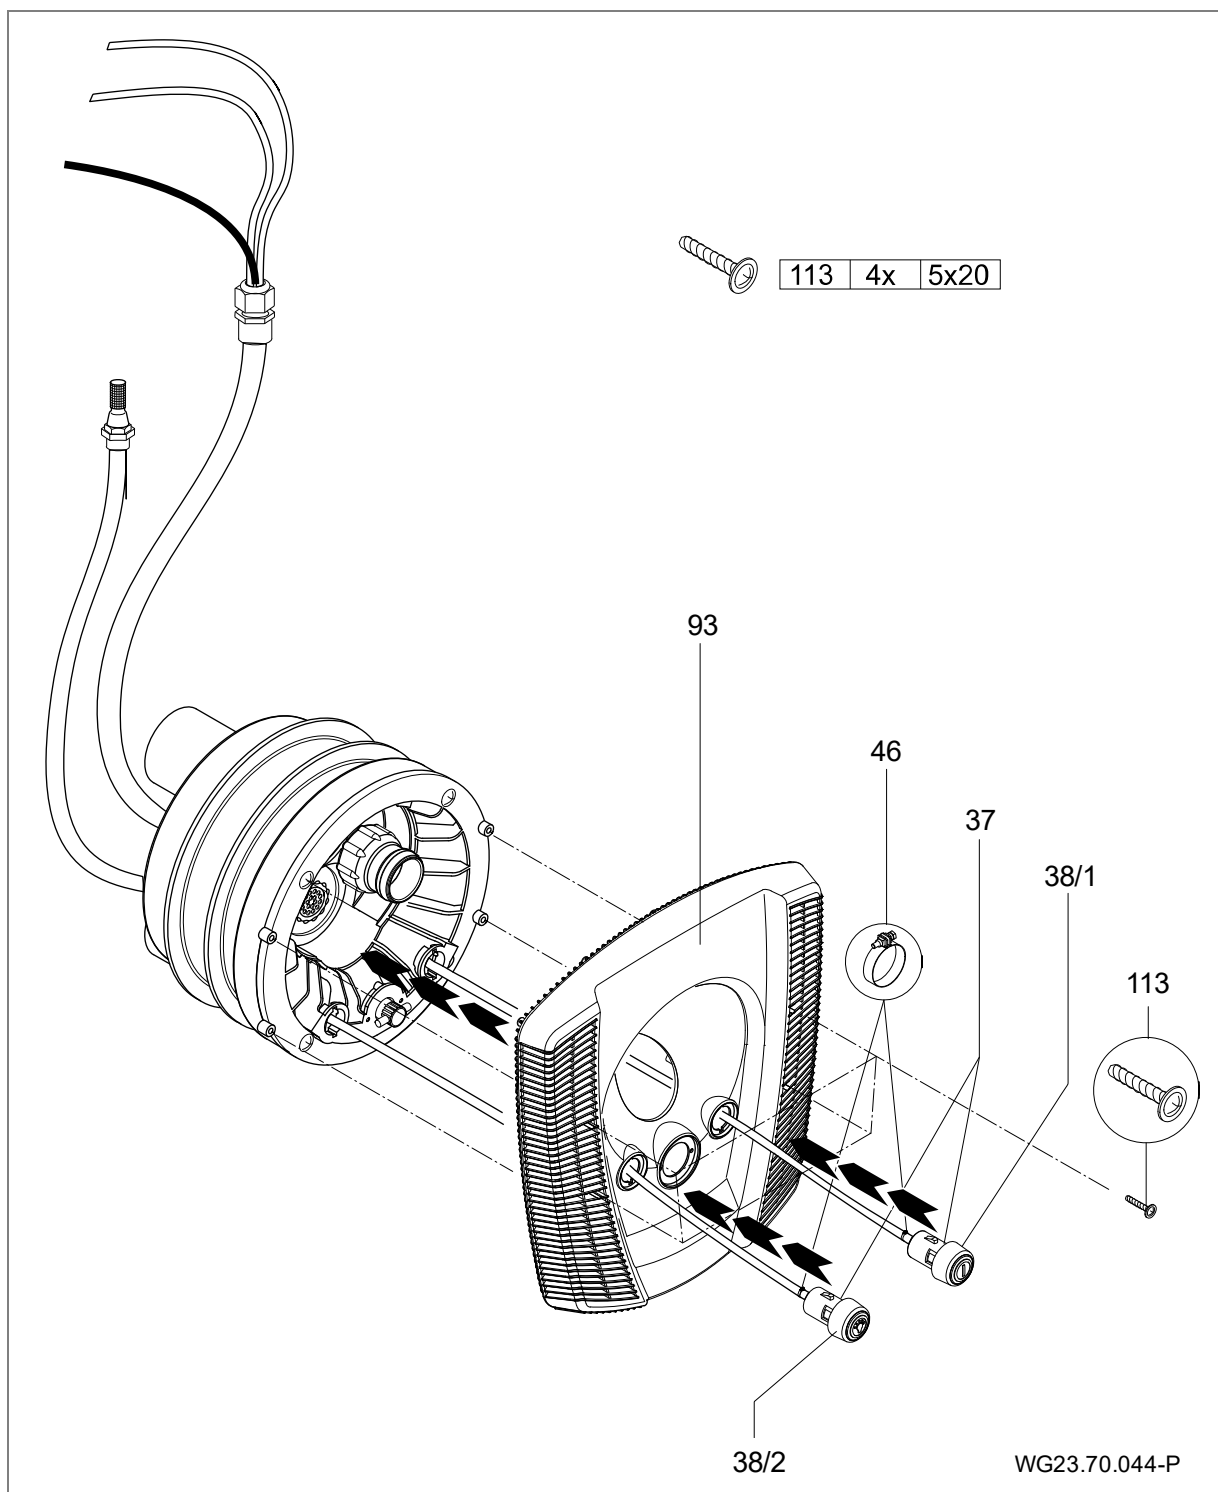

Fig. 18
6. Lead the pneumatic hoses through the openings in the cover (93) and fasten them to the corresponding buttons with hose clamps (46); Light ON/OFF left; Pump ON/OFF right. (Fig. 18)